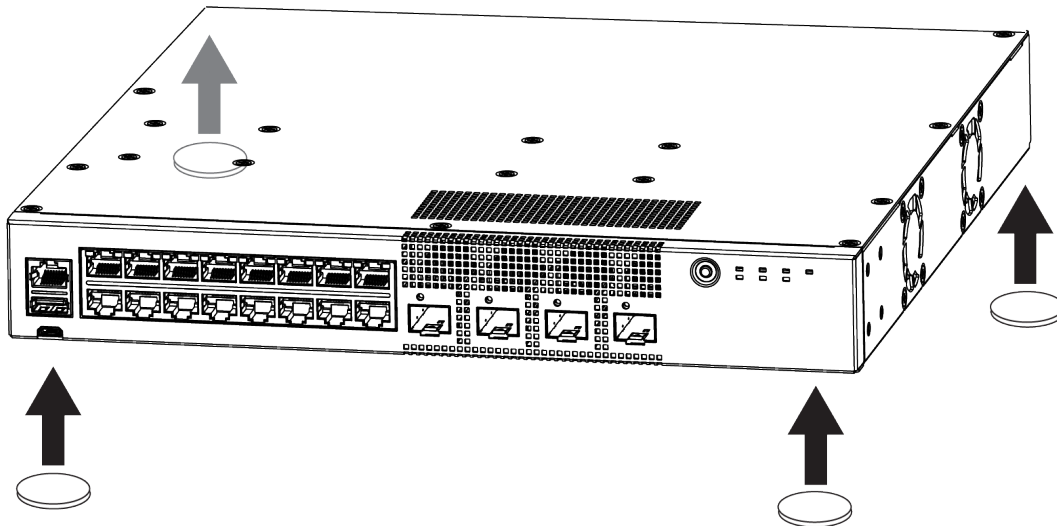

Figure 32: Table Mount: 5320 Series
2. Apply the pads to the underside of the switch by placing a pad at each corner, ensuring that all corners are aligned. Figure 32 shows the locations for attaching the rubber mounting feet on the switch.